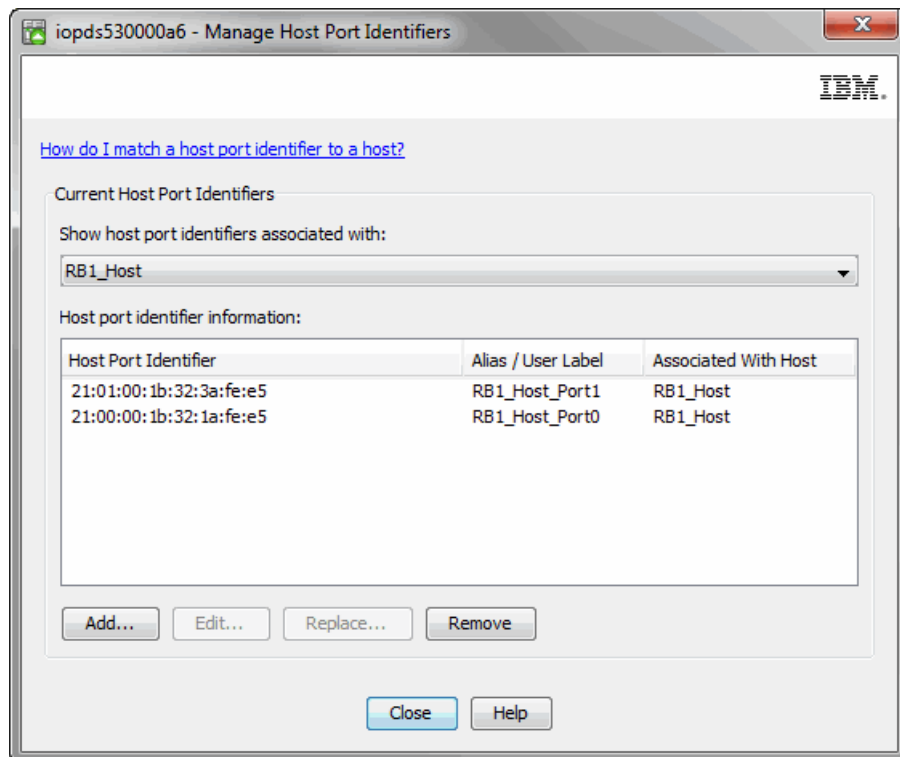

Figure 2-74 Added the WWPN and verified
4. When the port is added, the resulting panel will be similar to the one shown in Figure 2-74. Verify the changes and click **Close**.